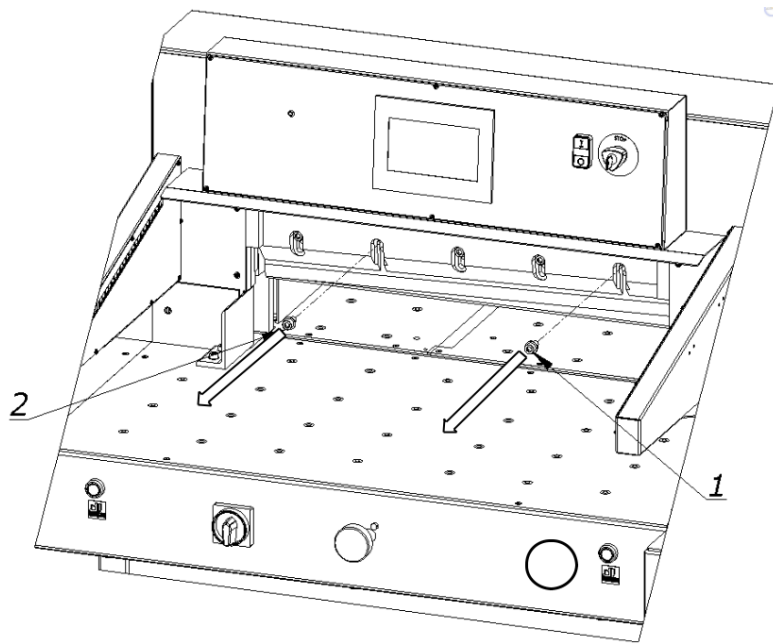
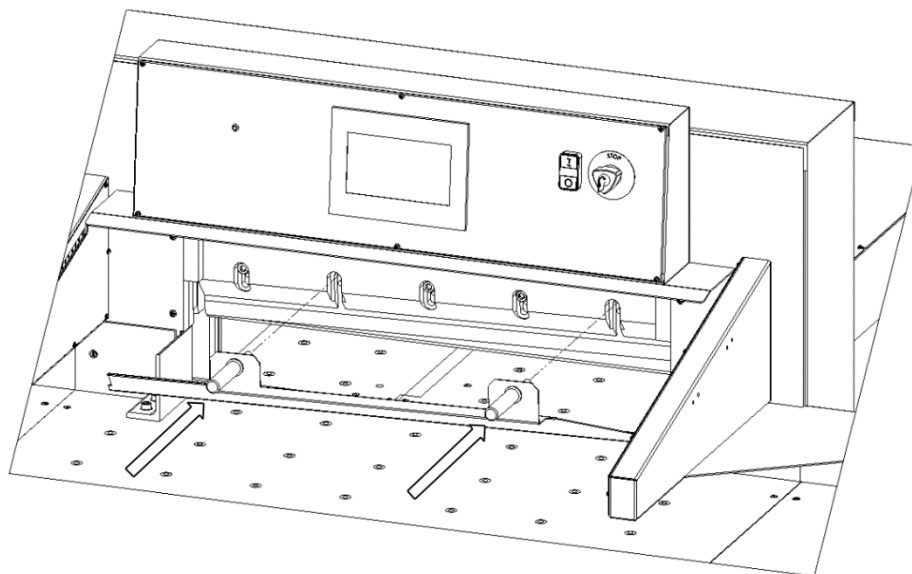

Figure 24
Figure 25
8.1.1.10 Unscrew and remove the fastening screws 1 and 2 (Fig. 24).
8.1.1.11 In the place of screws 1 and 2 removed (fig.24), screw in the transport handle 1 (fig.25), so that it secures the knife to the cutter bar.